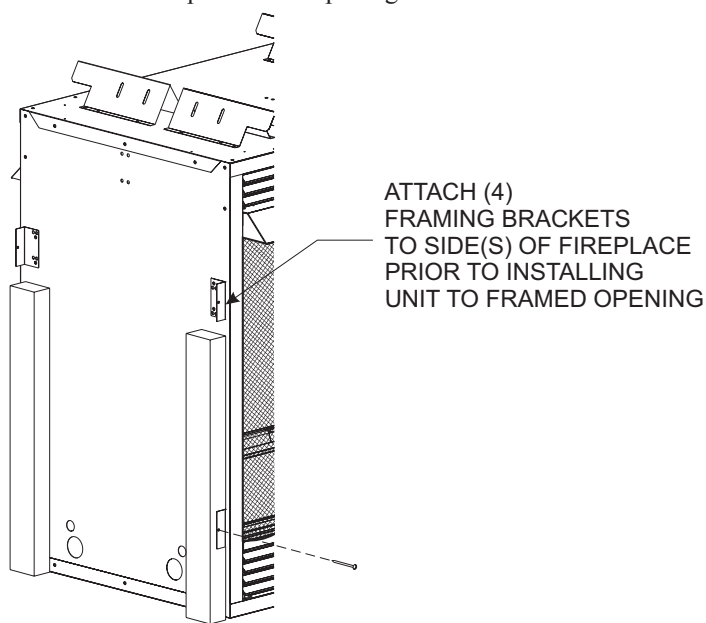

Figure 13
Place fireplace in framed opening. Attach the framing brackets to the fireplace and secure to framing. Different hole locations can be used for finishing materials with thicknesses of 3/8", 1/2" and 3/4". Secure the brackets with screws provided using two (2) per framing bracket. **See Figure 13.**